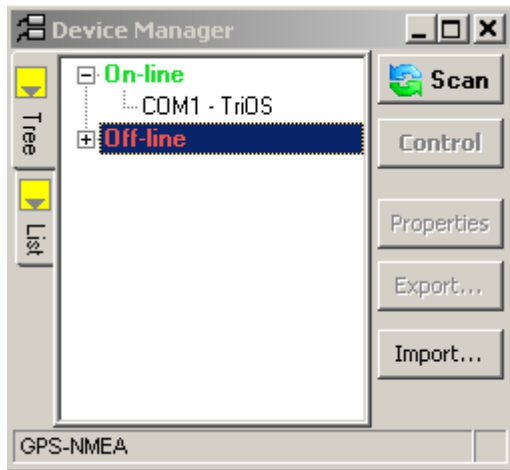
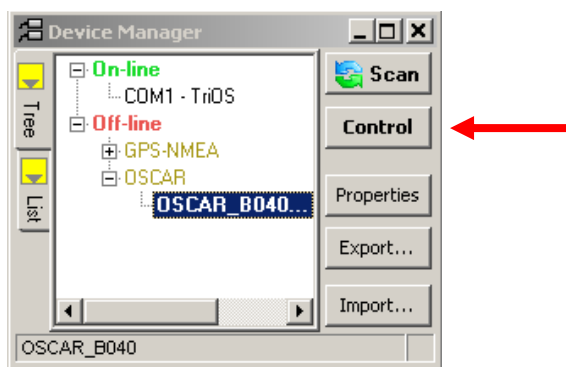

Fig. 26. Device manager of **MSDA_XE**
Fig. 27. Device manager of **MSDA_XE**
- Open the **OSCAR** control window direct from the device manager (Fig. 26 and Fig. 27).